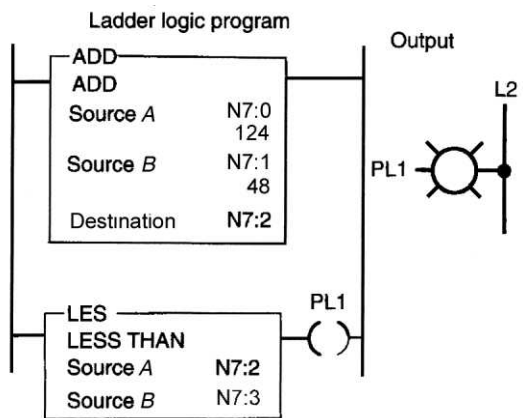

Figure 11-1 Program for question 2.
- 2-1. In the program of Figure 11-1, the value of the number stored in N7:2 is 2-1. _____